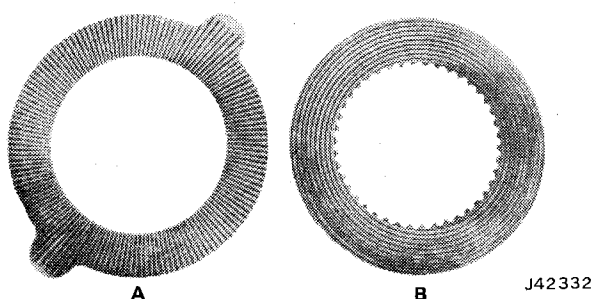

Fig. 2F-68 Clutch Plate and Disc Identification
Examples of radial groove clutch plate (A) and the concentric groove disc (B) are shown in figure 2F-68.